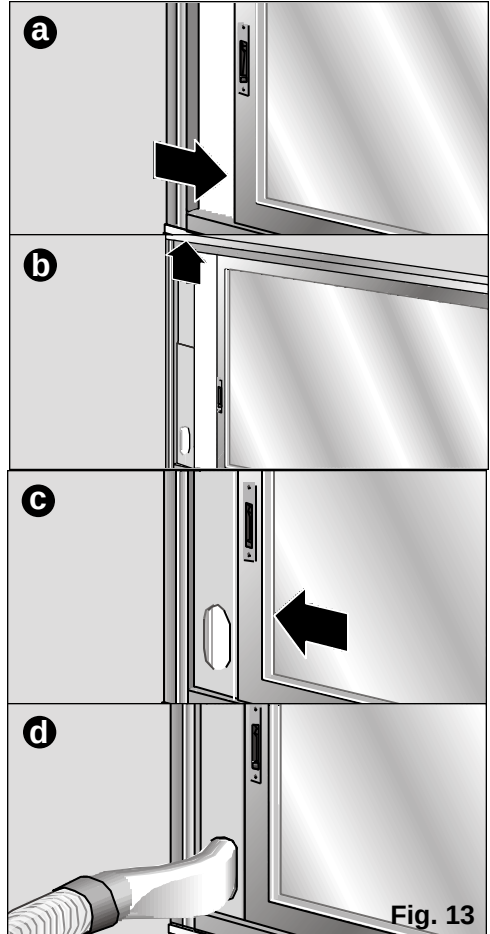

Fig. 13
- ☐ The sliding window/balcony installation accessory supplied with your appliance can also be used (See "Description of accessories"), **Fig. 13 : a, b, c, d**. This accessory can be used for both horizontal and vertical windows.